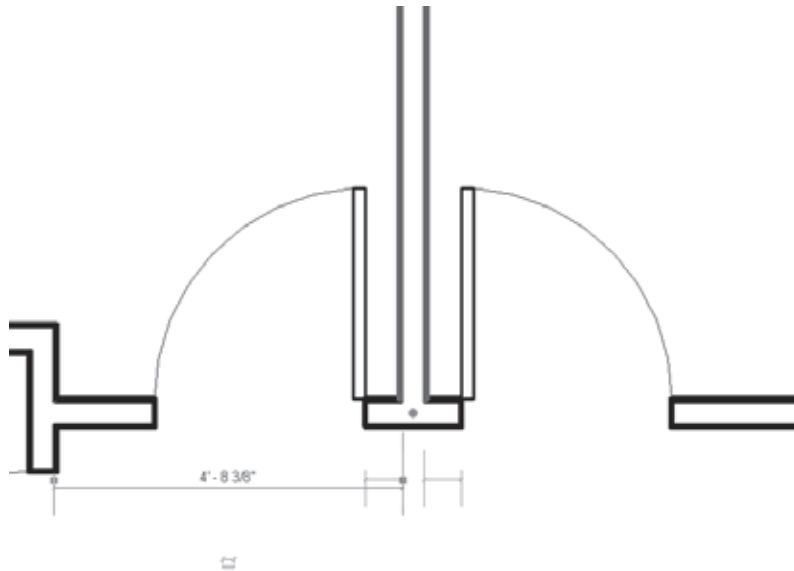

Figure 4.100
9. Select the wall, and the locks show up again, indicating the presence of a constraint. Clicking the lock (unlocking it) deletes the constraint. Figure 4.100 shows the constraints.